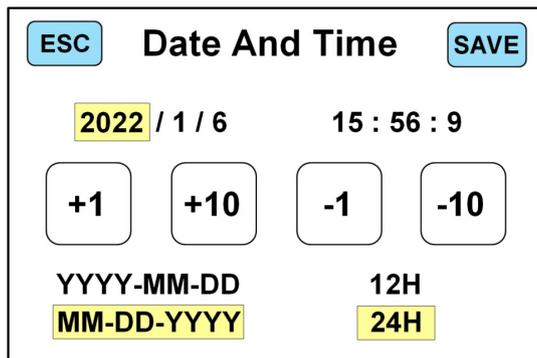

Figure 46
2) Touch “**1. Time and date**” to enter the time & date setting interface, as shown in Figure 46 below: